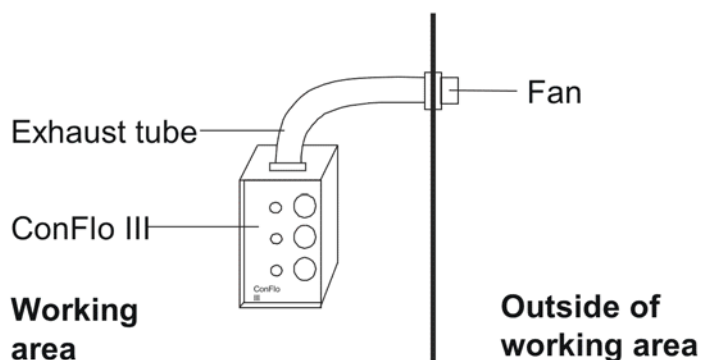

Figure 7-1. ConFlo III Interface with Exhaust Tube and Fan
The exhaust tube should be installed on top of the ConFlo III interface as shown in Figure 7-1 to remove the toxic sulfur dioxide (SO₂) from inside of ConFlo III out of your working area.
1. Install the exhaust tube on ConFlo III as shown in Figure 7-1.